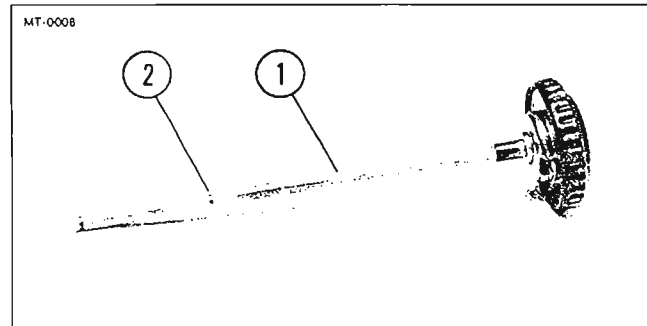

Figure 2-7. "Full" Level Groove
2. See Figure 2-7. Wipe dipstick (1) dry with a clean rag. Install filler cap/dipstick and immediately remove. Observe oil level on dipstick. Oil level must be on dipstick somewhere between end and groove (2). If level is below groove, add specified oil (Para. 7-1). If level is above groove, drain oil until level is even with groove.